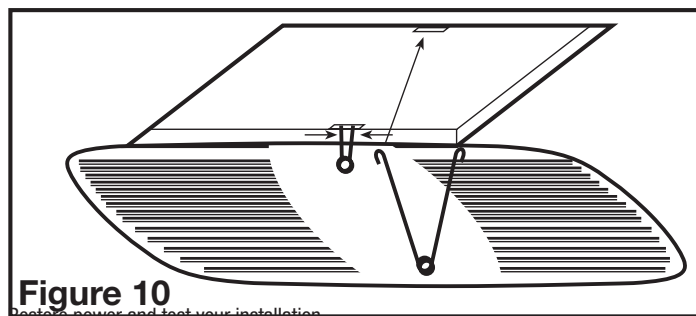

Figure 10
- Install the grill by squeezing the two ends of the springs together and installing them up into the slots on the fan's housing. Push the grill up into position (Figure 10).